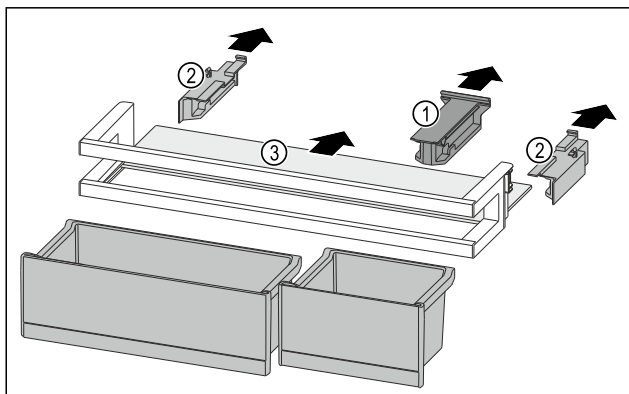

Fig. 146
- Pull off the holding part Fig. 146 (1).
- Pull off the side parts Fig. 146 (2).
- Remove the shelf Fig. 146 (3).